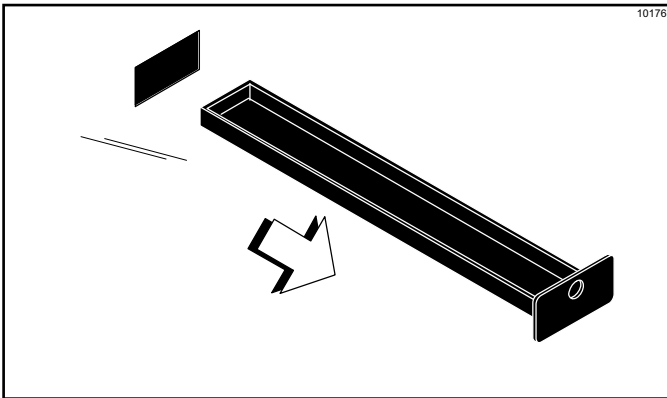

Figure 6-14
- Slide the two drip pans into the holes in the left and rear panels. (See Figure 6-14.)